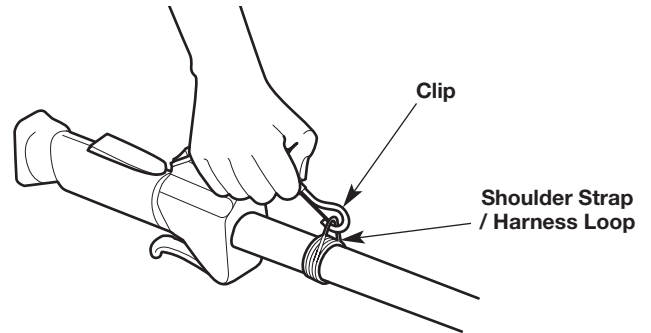

Fig. 8
3. Snap the clip onto the shoulder strap / harness loop (Fig. 8).